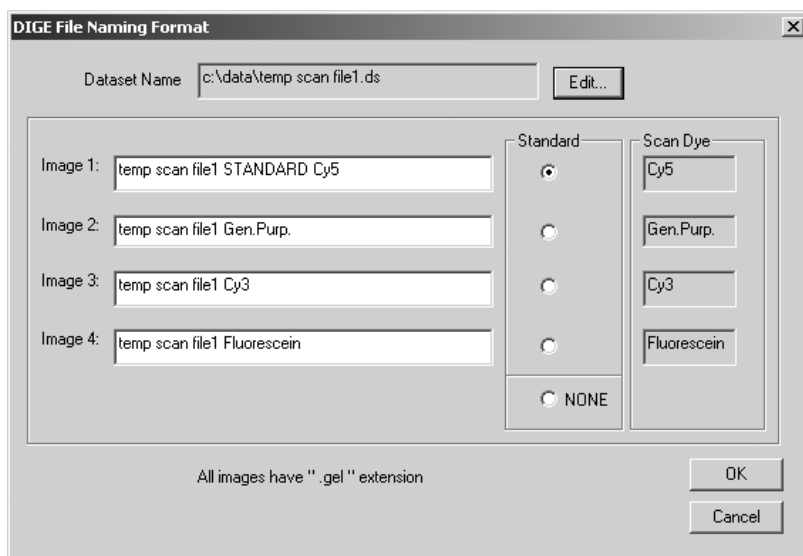

Figure 9-8. The DIGE File Naming Format window.
6. (Optional) If you want to change the dataset name or the individual file names for a sample, click the file name that you want to change and then click the **Edit Sample File Names** button. The DIGE File Naming Format window appears and displays the default names for each image of the multichannel image (figure 9-8).